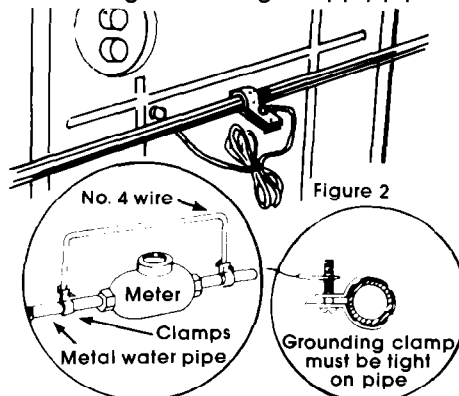

Figure 2
For added personal safety, use clamp and green colored copper grounding wire (#18 minimum) from the external grounding connector on the back of the washer to a grounded cold water pipe.* See Figure 2.
* Grounded cold water pipe must have metal continuity to electrical ground and not be interrupted by plastic, rubber or other electrical insulating connectors such as hoses, fittings, washer or gaskets (including water meter or pump). Any electrical insulating connector should be jumped as shown in Figure 2 with No. 4 wire securely clamped to bare metal at both ends.
If this is done, you **must** connect a separate copper grounding wire as (#18 minimum) to a grounded cold water pipe* by means of a clamp and then to the external grounding connector screw. Do not connect the power cord to outlet until the appliance is permanently grounded. See Figure 2.